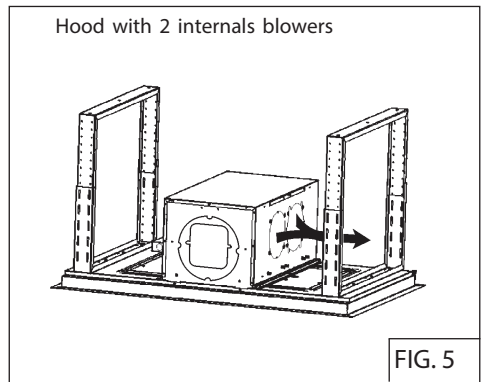

FIG. 5
3. Press on the metal spring located in the battery tray to dislodge battery. Replace both batteries with type 3V CR2450 (Fig.5). Re-assemble by following instructions in reverse.
5. The blower can be rotated according to the air outlet location. See Fig. 5 and 6.